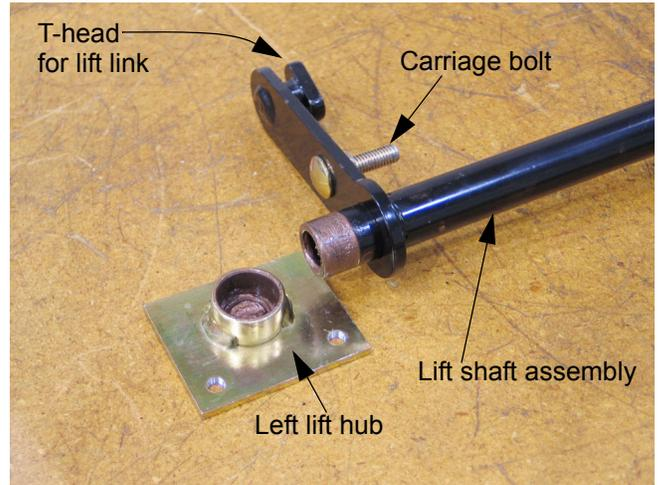

Figure 14.17
14.17. The left side hub will simply slip off of the shaft. See Figure 14.17.